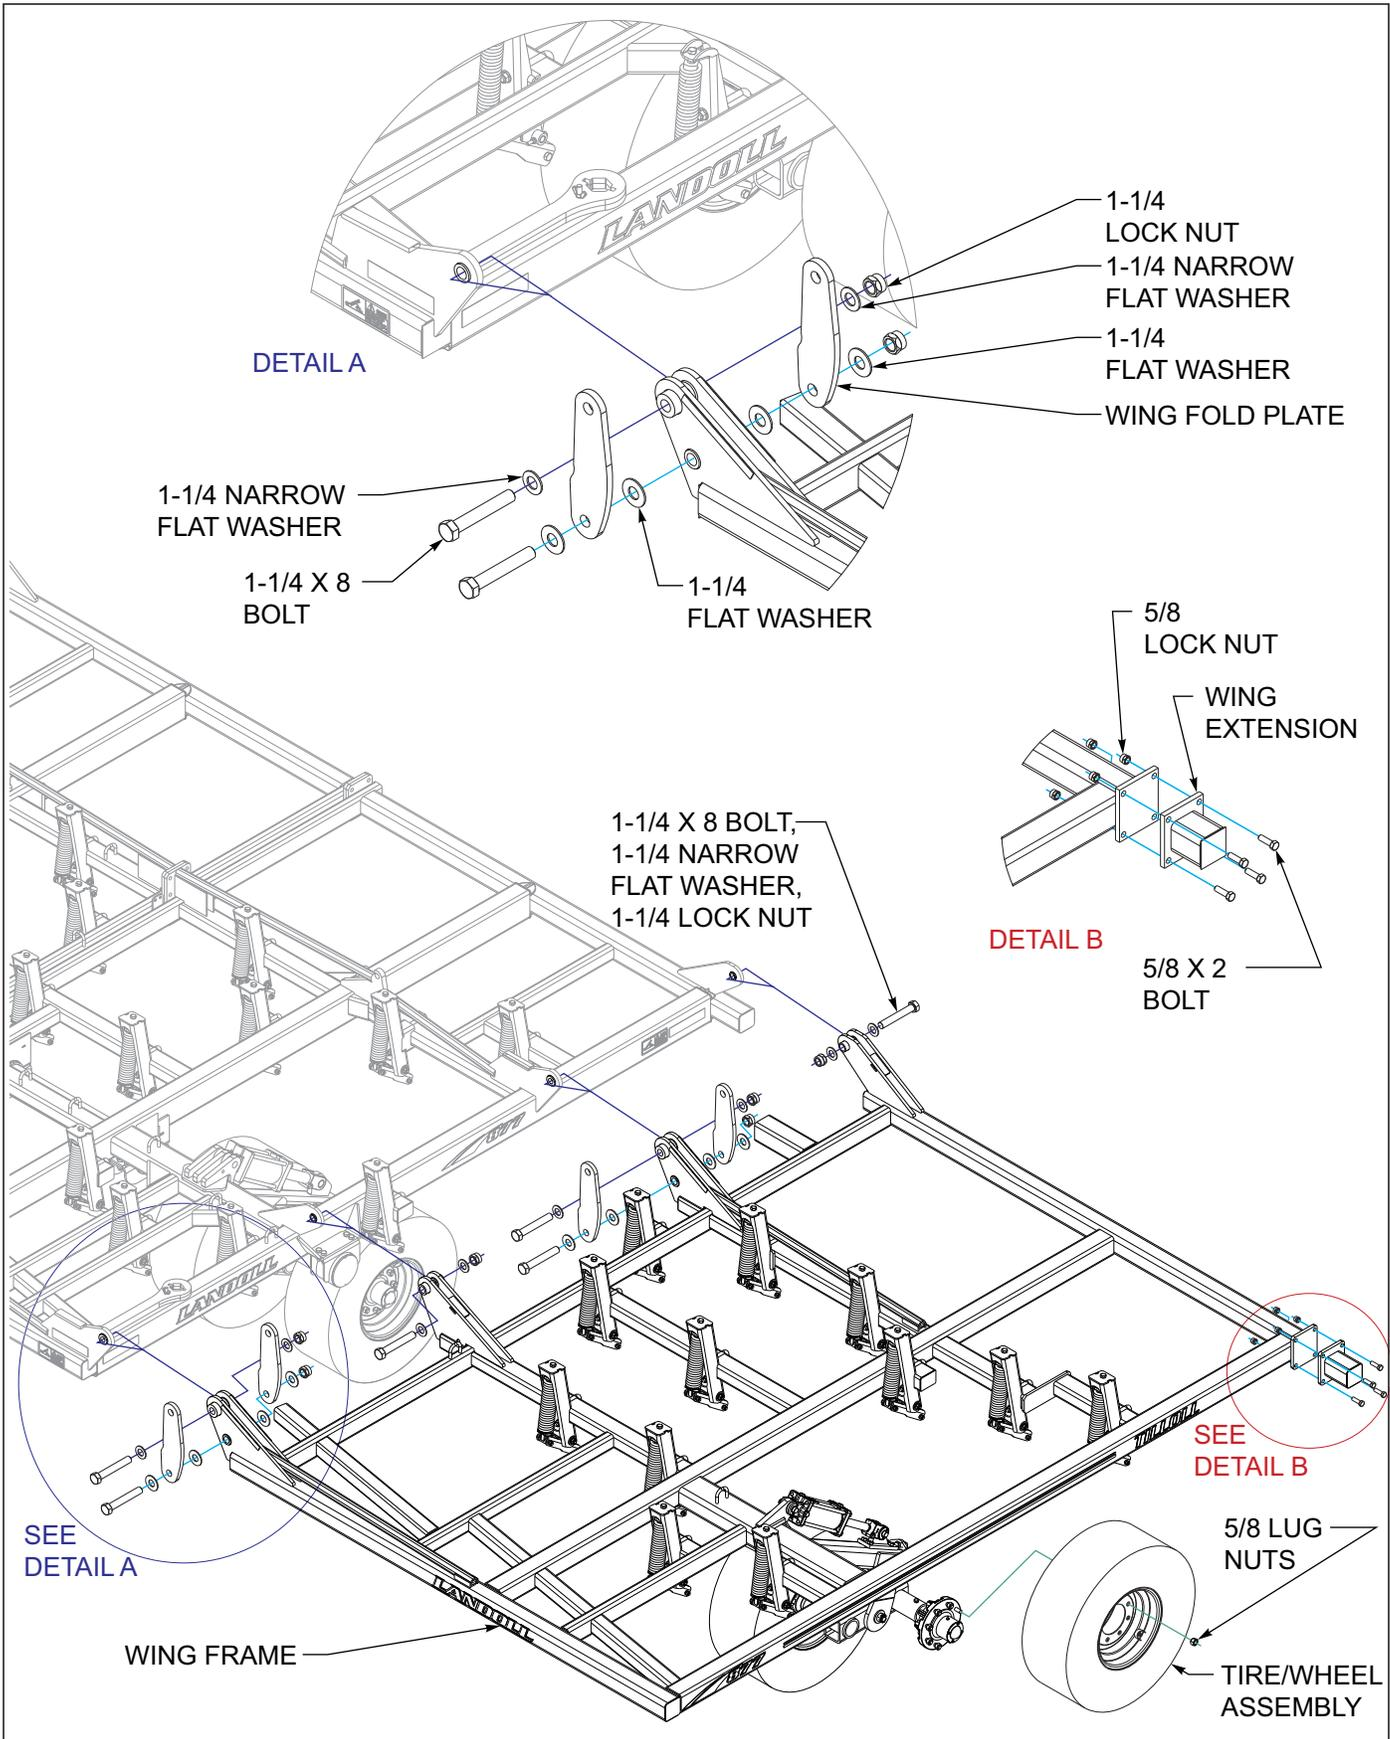

Figure 3-5: Wing Frame Assembly 35'
2. On 35' models, assemble the wing frames to the center frame using 1-1/4 x 8 hex bolts, 1-1/4 narrow flat washers and 1-1/4 lock nuts **See Figure 3-5**. Install wing extensions to wing frames using 5/8 x 2 hex bolts and 5/8 lock nuts. Assemble the wing fold plates to the wing frames using 1-1/4 x 8 hex bolts, 1-1/4 flat washers and 1-1/4 lock nuts. Use flat washers on both outside and inside of the wing fold plates.